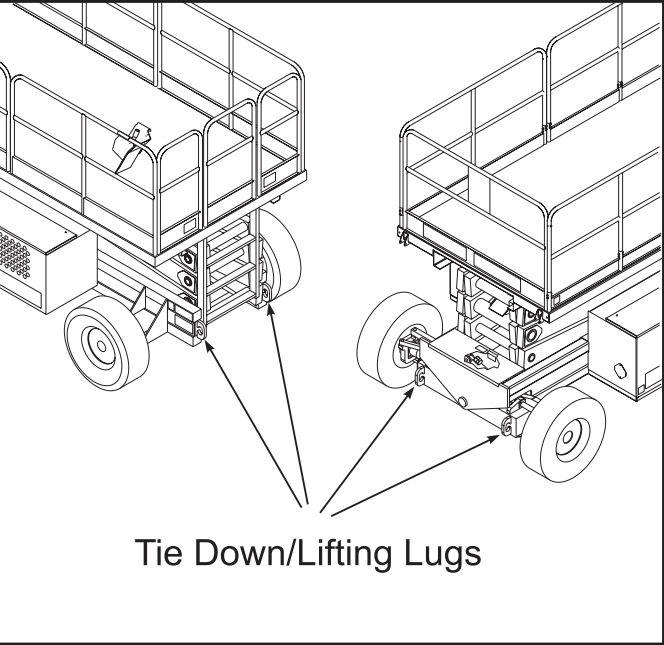

Figure 8: Transporting Work Platform
- 1. Secure straps to chassis tie down/lifting lugs only (Figure 8).
- 2. Secure the work platform to the transport vehicle with chains or straps of adequate load capacity attached to the chassis tie down/lifting lugs (Figure 8).